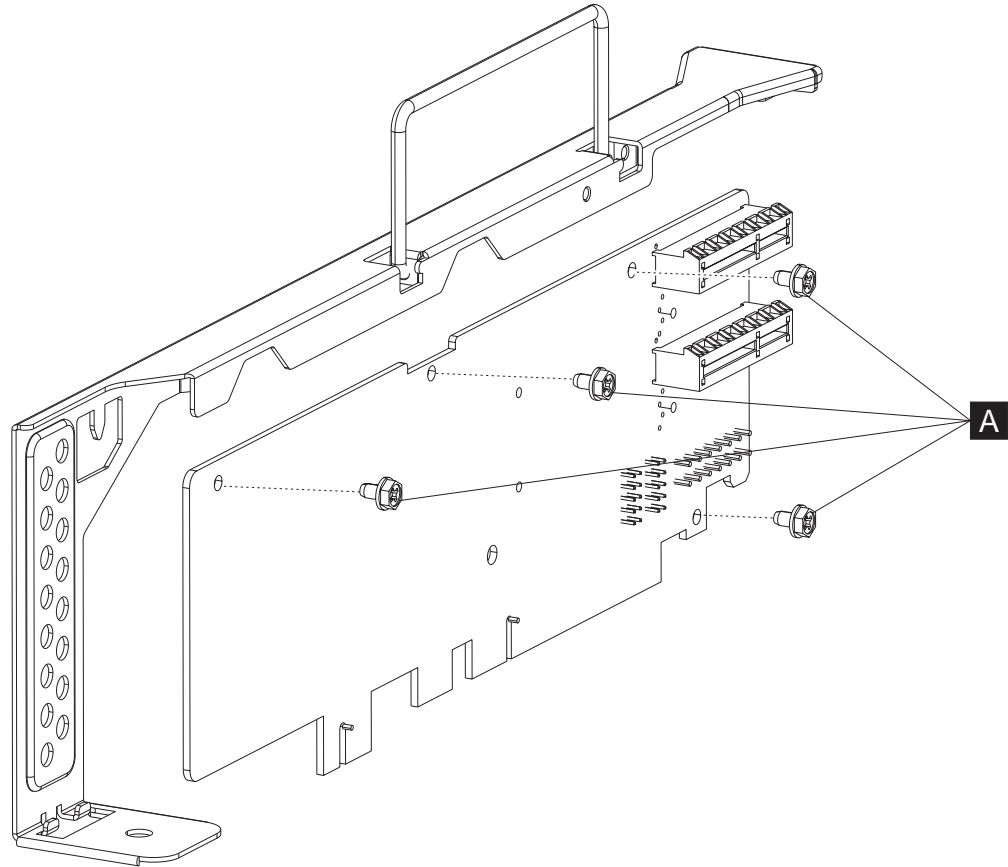

Figure 32. Removing the riser screws
3. Remove the four screws ( **A** in Figure 32) holding the riser card to the spline.